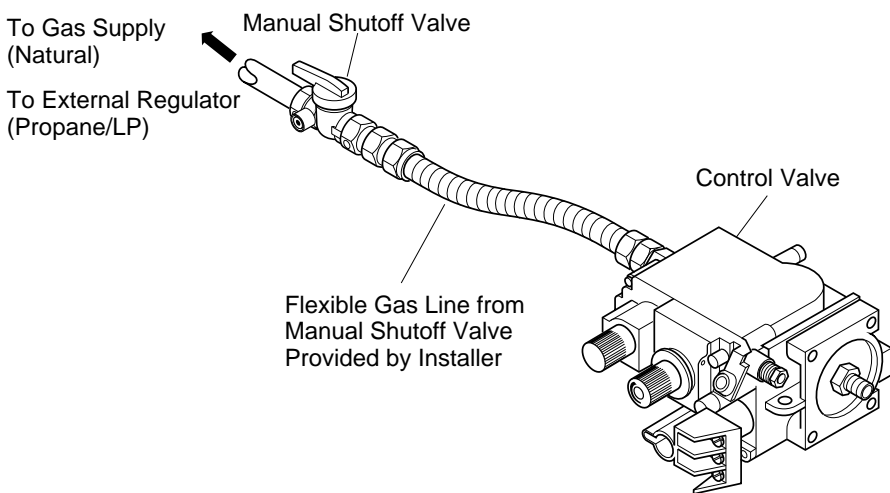

Figure 36 - Attaching Flexible Gas Lines To The Control Valve
3. Attach flexible gas line from gas supply to control valve (see Figure 36).